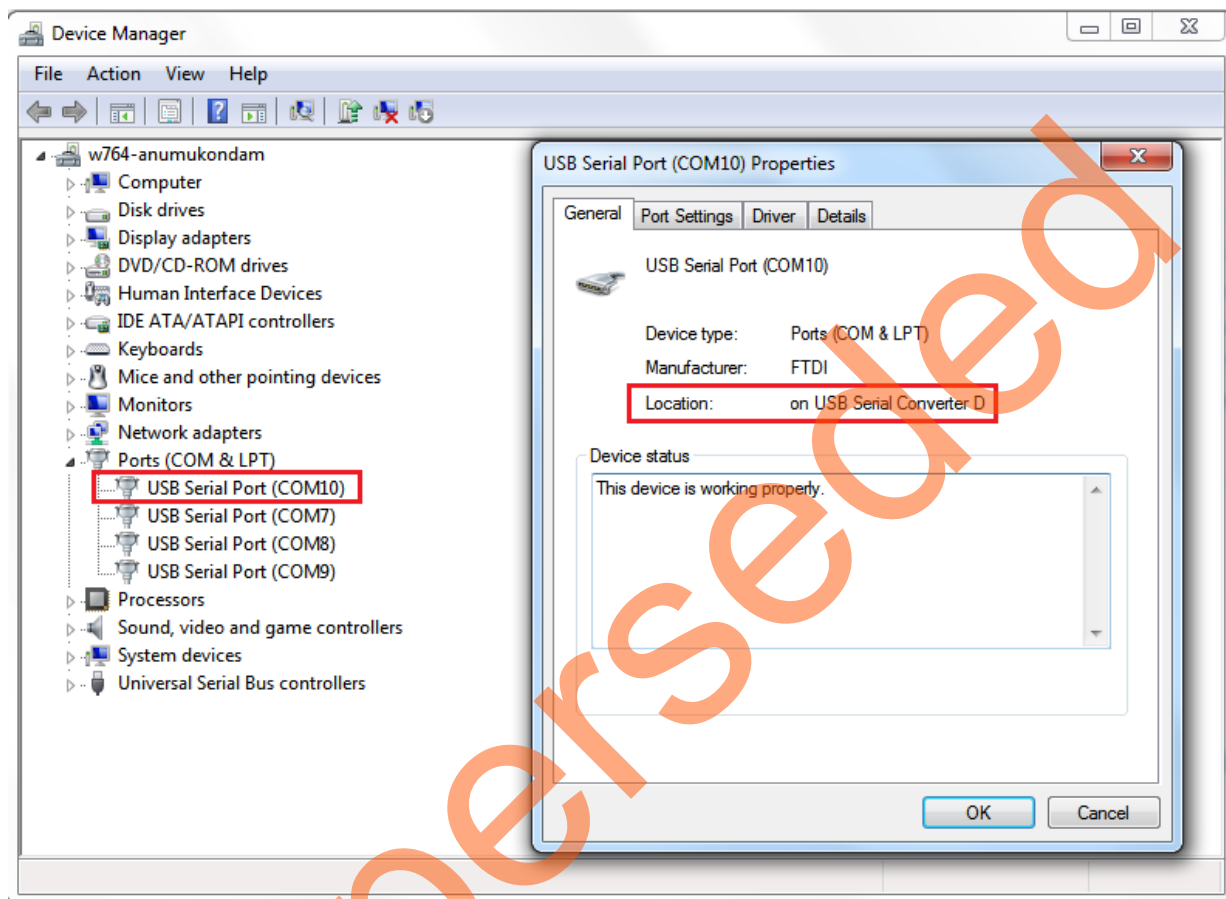

Figure 5 • USB to UART Bridge Drivers
5. Ensure that the USB to UART bridge drivers are automatically detected. This can be verified in the **Device Manager** of the host PC. The FTDI USB to UART converter enumerates four COM ports. For USB 2.0, note down the USB Serial Converter D COM port number to use it in the IGL2_FIR_Filter.exe. Figure 5 shows the USB 2.0 Serial port properties and the connected COM10 and USB Serial Converter D.